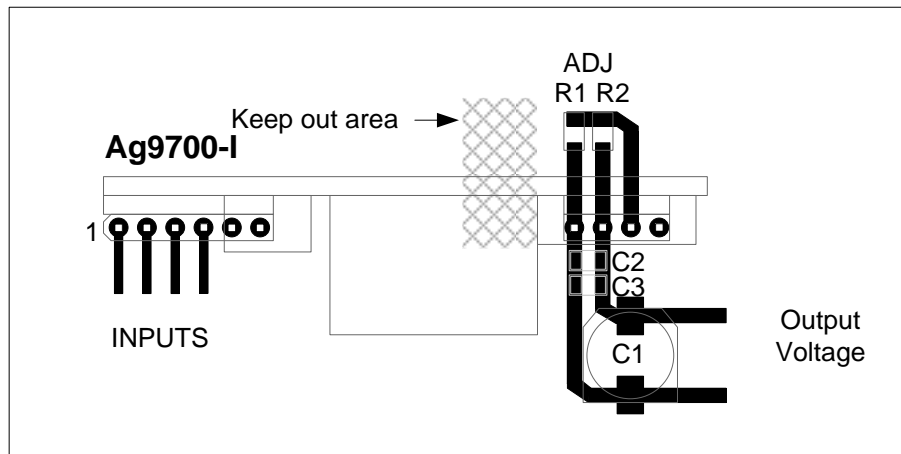

Figure 8: Typical Layout
To meet the safety isolation requirements of IEEE802.3af section 33.4.1 a Powered Device (PD) must pass the electrical strength test of IEC 60950 sub clause 6.2. This calls for either a) 1500Vac test or b) 1500V impulse test. The Ag9700-I is specified to meet the 1500Vdc impulse test. It is also important that the tracks on either side of the isolation barrier have at least a 3mm clearance, see Figures 8 & 9 and Section 12 for more information.
Figure 8: gives an example of the tracking needed for the Ag9700-I (with Output Filter A). R1, R2, C1 and C2 are optional components, C1 must be fitted. The thermal performance of the Ag9700-I can be improved by increasing the surface area of the output tracks (+VDC and -VDC). This is not applicable if the Ag9700-I is in a socket.